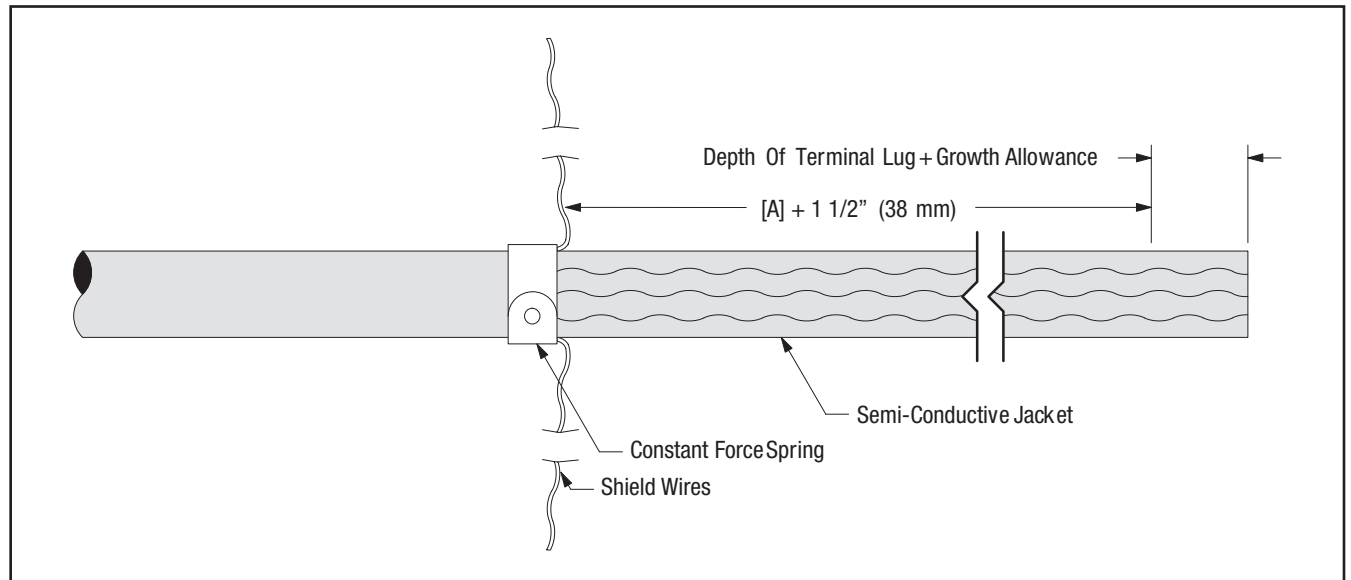

Figure 16
12.2 Prepare cable using dimensions shown in Figure 16, 17 and 18. Refer to Table 4 for dimension [A]. **BE SURE TO ALLOW FOR DEPTH OF TERMINAL LUG.**
12.3 Install constant force spring as shown in Figure 16. Pull shield wires through semi-conductive jacket to leading edge of constant force spring (Figure 16).